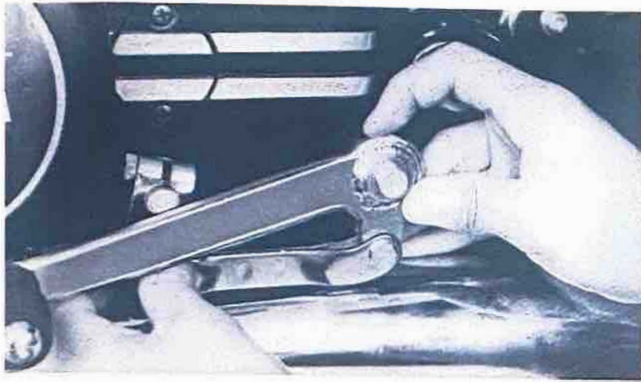

Fig. 32
18. Install the change arm to the change arm pivot shaft and change shaft link lever to the change shaft. Then install the washer and the circlip to the change arm pivot shaft, and tighten the pinch bolt. (Fig. 32 ~ 34)